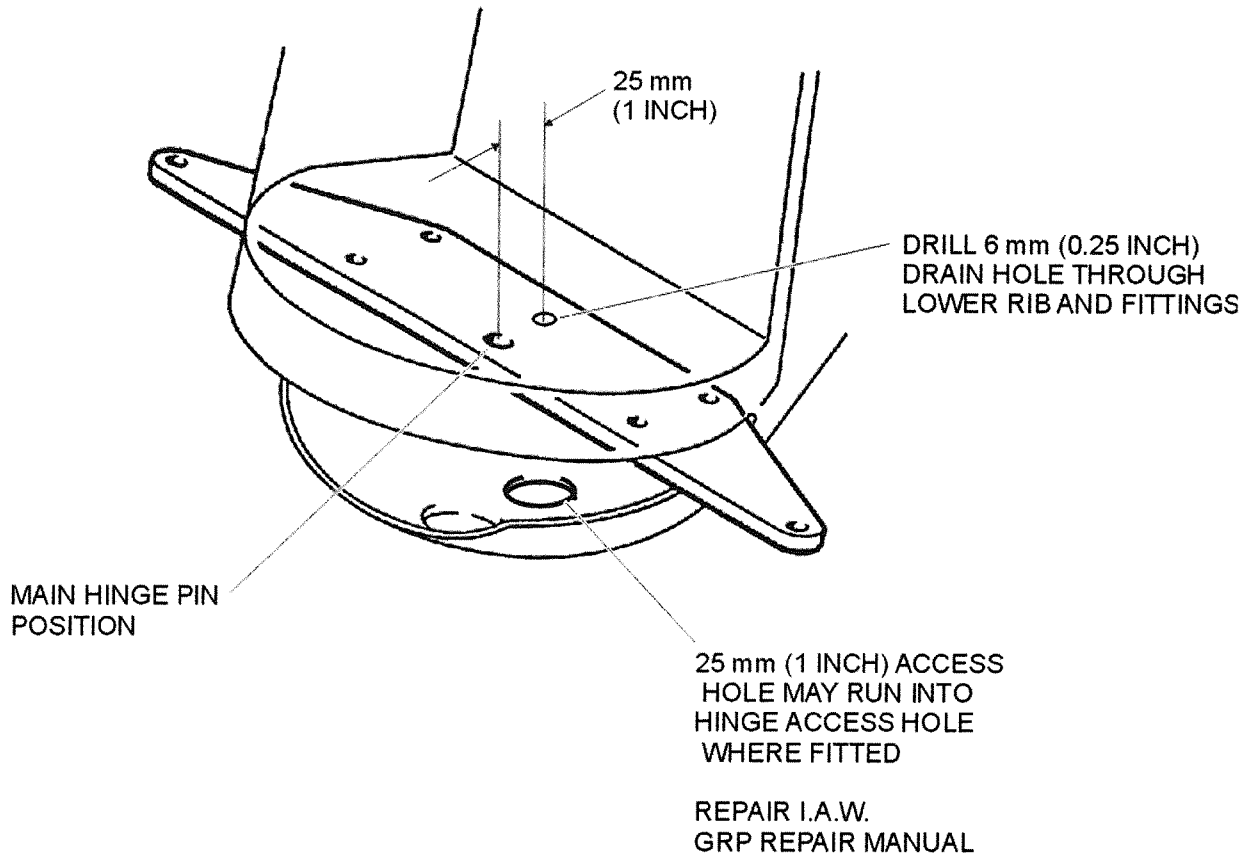

FIG 1
2. Mark position of 6mm (.25 inch) drain hole on the rudder horn. Carefully form a 25mm (1 inch) diameter access hole in the rudder lower fairing on centreline. Ref Fig. 1. This hole to be as directly under proposed drain hole as possible.
3. Carefully drill 6mm (.25 inch) diameter hole in the leading edge of the lower rib as shown in Figure 1.